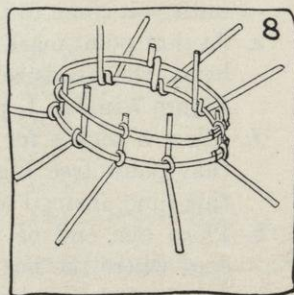

FIG. 8.
- Allow 3 inches for the lap of the headsize and cut the wire at that point (see Figure 8 of Job 1, page 5, only allow 3 inches this time, instead of 2 inches).
- (2) Holding vertical wire under top headsize wire, twist it at right angles toward you, over top headsize wire, under and up again vertically (see Figures 8, and 5 A, B, C, and D).
- (3) Do this to front, back, and direct side brace wire (see Figure 8).
- (4) After four braces are attached to top headsize, see that headsize is a well-shaped oval.
- (5) Fasten side front and side back wires to top headsize wire.